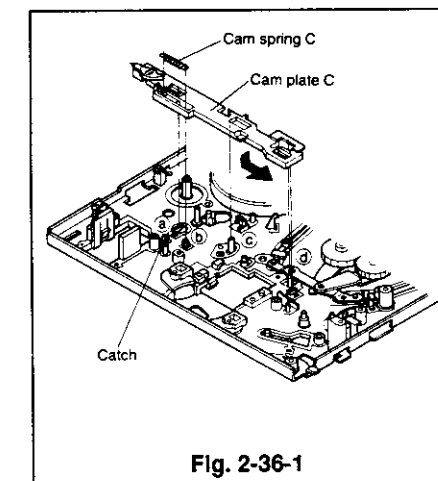

Fig. 2-36-1
- ① Remove the reel belt and the belt pulley. (Refer to Para. 2-28 for the removal method.)
- ② Remove the reel idler assembly. (Refer to Para. 2-35 for the removal method.)
- ③ Remove the loading motor assembly (which holds the motor holder). (Refer to Para. 2-29 for the removal method.)
- ④ Remove the main gear-J. (Refer to Para. 2-30 for the removal method.)
- ⑤ Remove the plate-J, the roller-B, and the cam plate-B. (Refer to Para. 2-33 for the removal method.)
- ⑥ Remove the cam spring-C. (Refer to Fig. 2-36-1.)
- ⑦ Slide the cam plate-C to the left end.
- ⑧ Unfasten the catch and raise the cam plate-C to remove it. (refer to Fig. 2-36-1.)
- ② Position the cam plate-C so that the four points (A), (B), (C) and (D) shown in Fig. 2-36-1 enter into the matching holes and slide it to the right end.
- ③ Install the cam spring-C.
- ④ Install the cam plate-B, the roller-B, and the plate-J.